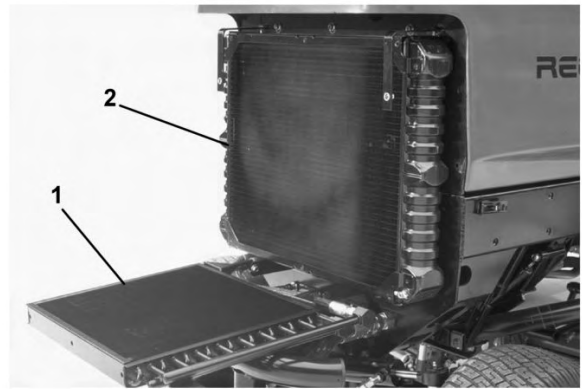

Figure 75
3. Unscrew knobs and pivot oil cooler rearward (Figure 75). Clean both sides of oil cooler and radiator area thoroughly with compressed air. Do not use water. Open hood and blow debris out toward back of machine. Pivot oil cooler back into position and tighten knobs.